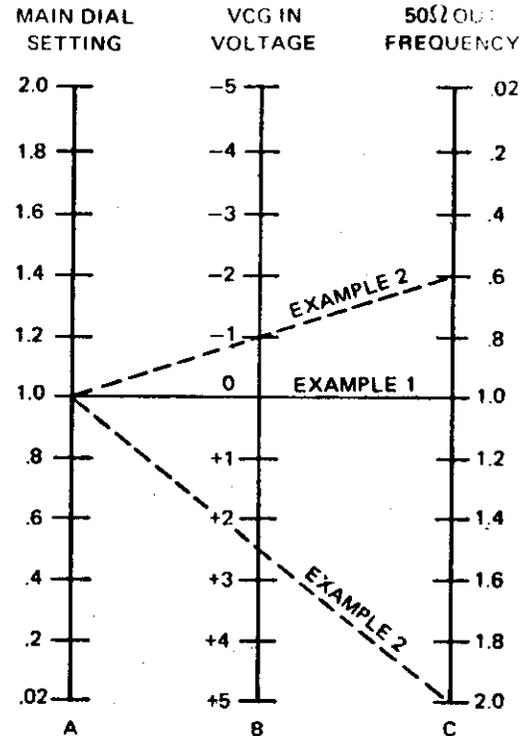

Figure 2-2 - VCG Voltage-to-Frequency Nomograph
7. The nomograph in Figure 2-2 shows the characteristics of the VCG circuit. Column A gives the frequency dial setting; column B, the VCG input voltage; and column C, the approximate resultant dial frequency. Column C must be multiplied by the frequency range multiplier for the actual output frequency.